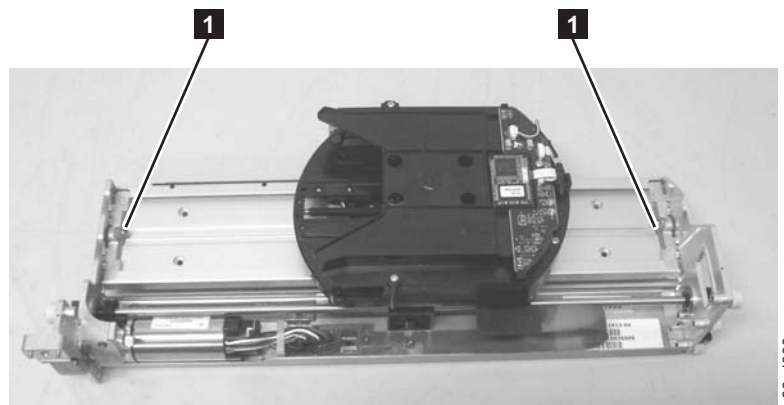

Figure 8-49. Thumb screws
7. Loosen the front and rear thumb screws (**1** in Figure 8-49).
2. Tighten the front and rear thumb screws (**1** in Figure 8-49).
3. Reach through the Access Door and loosen the screws (**1** in Figure 8-49 on page 8-52) on the front and rear of the Picker Assembly.
3. Reach through the I/O Station door and tighten the screws (**1** in Figure 8-49 on page 8-52) on the front and rear of the Picker Assembly.